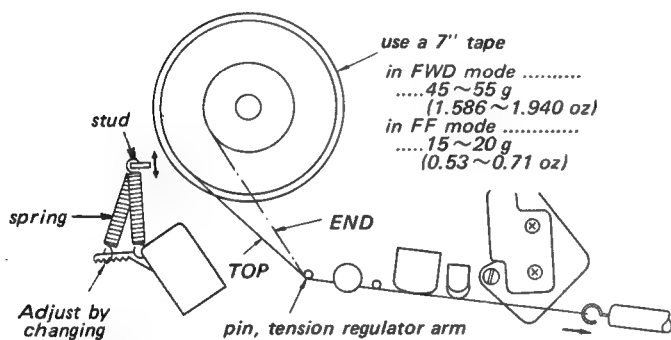

Fig. 11-6 Tension regulator back-tension adjustment
- (1) Make the tension regulator adjustment.
- (2) Adjust by changing the hooking position of the spring to obtain the specified values on the tension gauge at the beginning and the end of the tape as shown in Fig. 11-6.